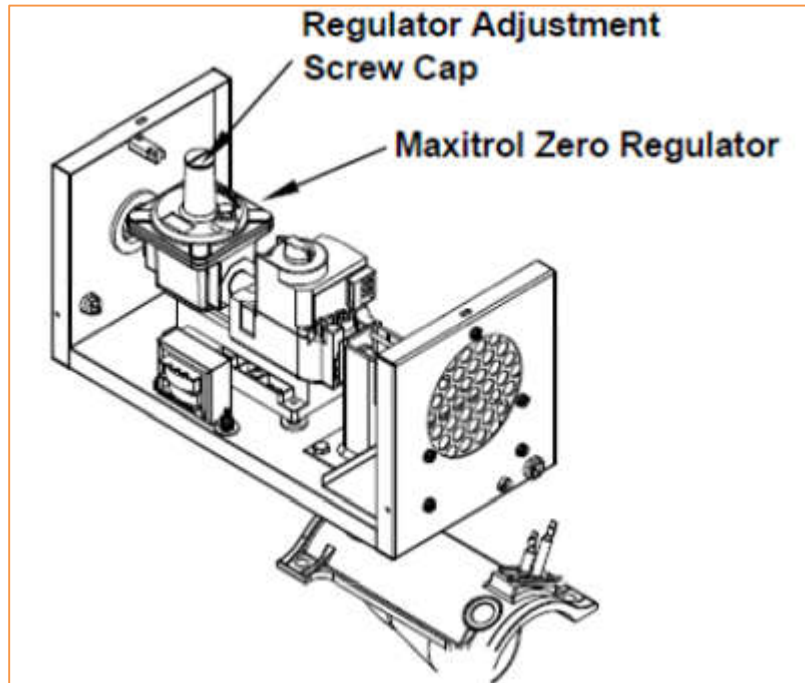

Figure 50: Maxitrol Zero Regulator
1. Now we are ready to start up the burner. Before plugging in the burner, take the cap off the Maxitrol Zero Regulator. Refer to Figure 50 below to locate Zero Regulator.